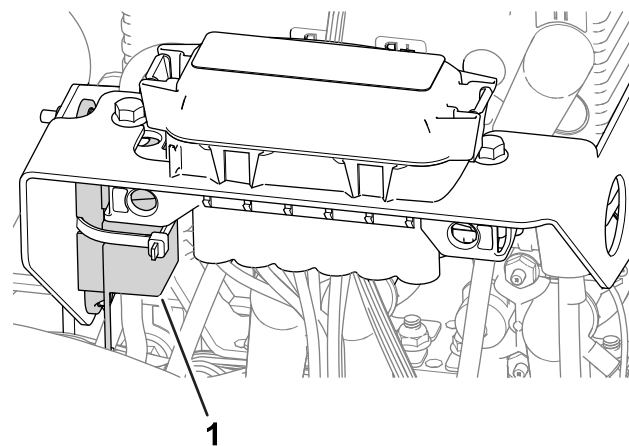

Figure 61
- The fuse for the left wheel motor (60 A) is located under the cover on the left side of the machine, near the reel-drive-circuit fuses (Figure 61).